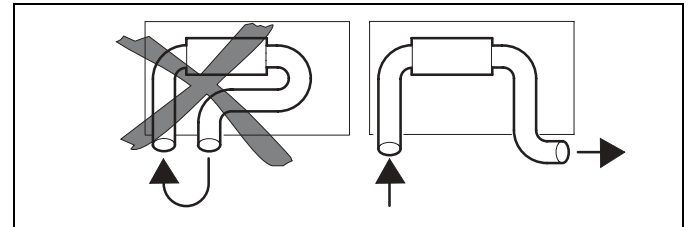

Fig. 7: Hot air inlet and hot air outlet
- Air short circuit between the heater's air inlet and the heater's air outlet (Figure 7)